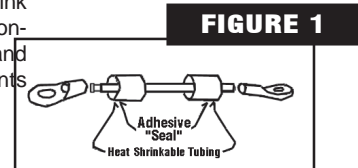

FIGURE 1
- Avoid shorts. Never jumper between terminals or from terminals to ground, nor try to trouble shoot by "sparking" terminals. Always use dielectric grease on terminals and use boots to cover terminals if supplied. Use heat shrink tubing when replacing connectors to protect wires and crimps from the elements (Figure 1).